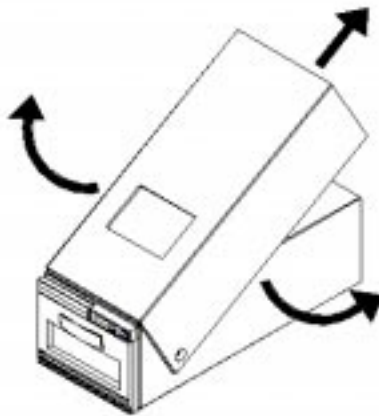

FIGURE 5-2 Removing the Cover
- b. **Remove the cover by pulling the sides slightly out and lifting the cover up and toward the back of the unit (FIGURE 5-2 on page 5-3).**